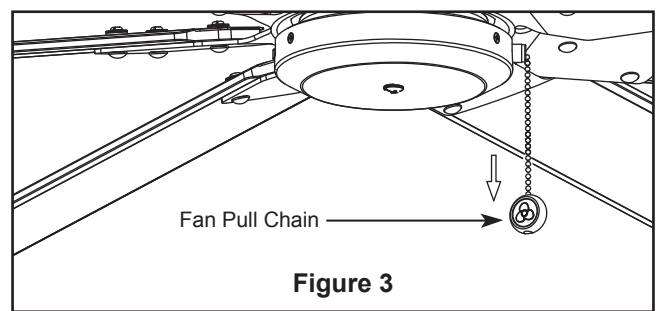

Figure 3
3. Check the operation of the fan by gently pulling on the fan pull chain. (Figure 3)